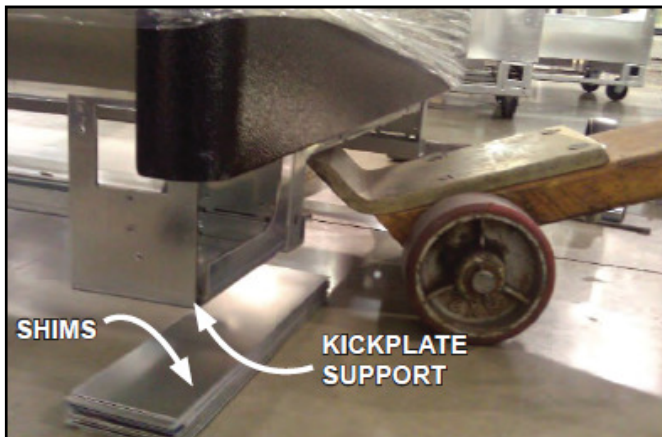

Fig. 1: Kickplate support
4. Locate basehorse positions along the chalk line. **Place 2X of the 6" length shims next to each other (Fig 1). They should be placed under the basehorse and kickplate supports (Fig 1). Stack shims until floor is leveled.**